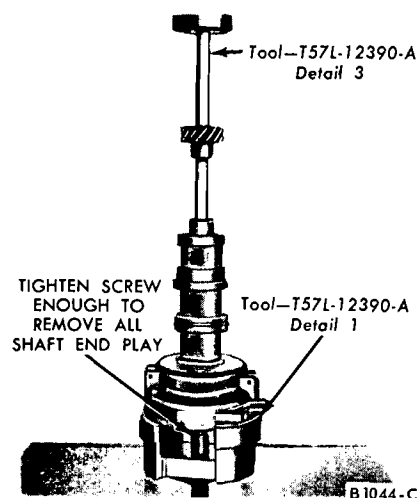

FIG. 16—Original Shaft and Gear Installation
8. Install the assembly in a press. Press the gear on the shaft (Fig. 16), using the marks made on the gear and shaft as guides to align the pin holes.